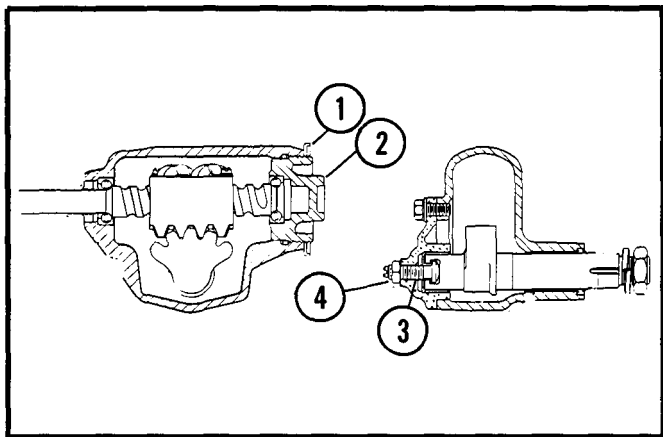

Figure 18.
1. Loosen the worm bearing adjuster until all endplay has been removed, then loosen 1/4 turn. See Figure 18.